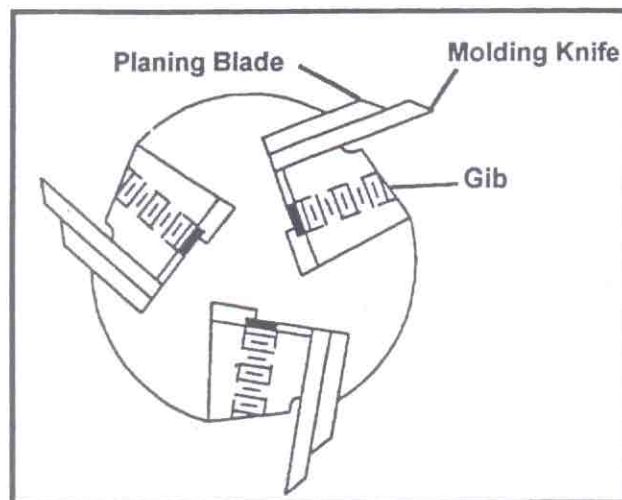

Fig. 14
- Remove lock bar. **Note:** With 2" wide and under molding cutters, the planing knives remain in place. (Fig. 14)